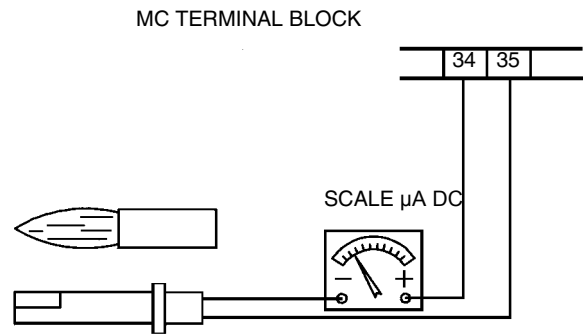

Fig. 30
- check and carefully clean the flame detection photoresistor, if necessary replace it and, if in doubt, check the detection current following the scheme in Fig. 30;
To measure the detection signal follow the diagram in Fig. 30. If the signal is not in the advised range, check the electrical contacts, the cleaning of the combustion head, the position of the photoresistor and if necessary replace it.